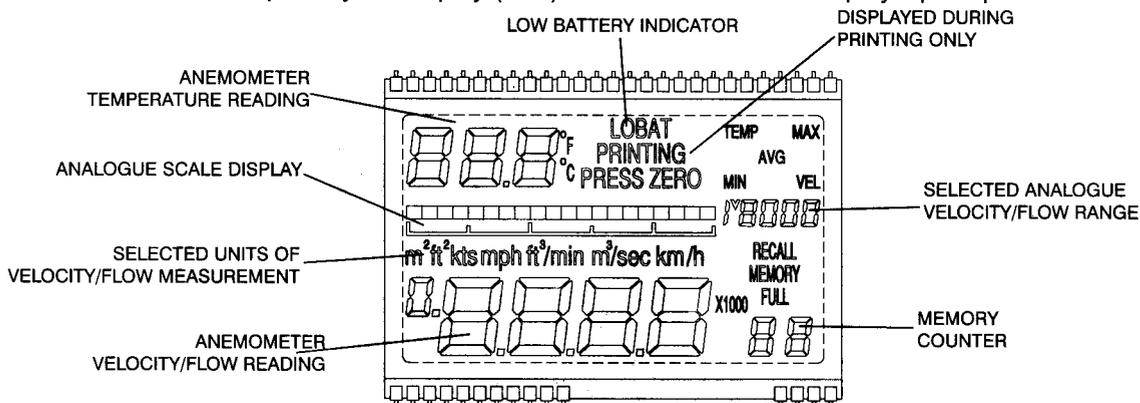

FIG 1
This is a custom Liquid Crystal Display (LCD) and FIG.1 shows the display's principle features.
Note: FIG.1 shows the display with all the segments illuminated, this is a condition which will not occur in normal use but only during the display test (see section 8.1).
on key. The analogue scale line on the display (see FIG.1) will flash three times to show that this command has been accepted before the display illuminates. Subsequently, the analogue scale line will continue to pulse as a reminder that the 'auto off' facility has been disabled.
key. The temperature in the selected units will be displayed on the three digit display in the top left hand corner of the display area (see FIG.1).
- (3) Select the required analogue scale display range (see FIG.1) by pressing the